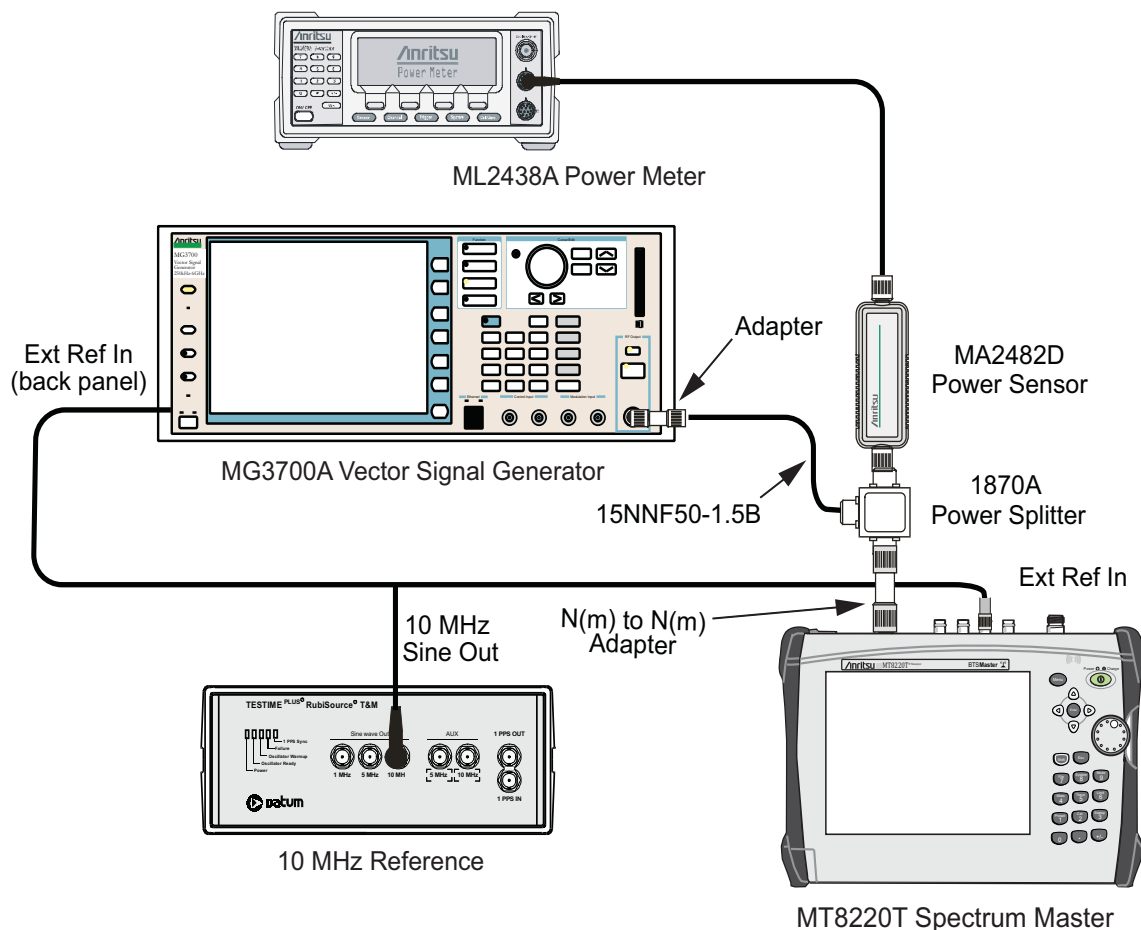

Figure 6-1. GSM/GPRS/EDGE, Test Setup
3. Connect the equipment as shown in Figure 6-1